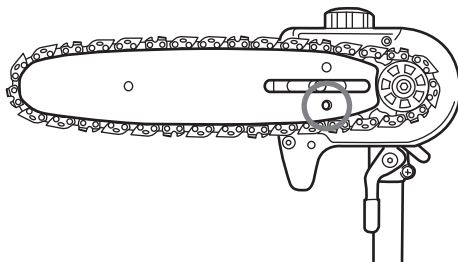

Fig. 8e
g). Make sure the tension pin (D11) is inserted into the lower hole on the guide bar. (See Fig. 8e)